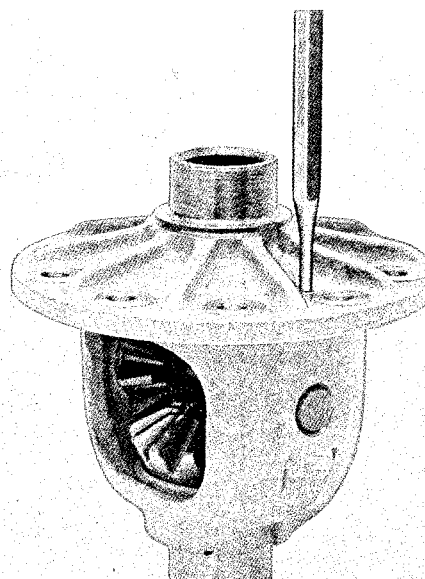

Fig. 4-146. Lock pin removal
3. Drive out the lock pin, see Fig. 4-146, and then the shaft for the differential gears. Take out the differential gears and the thrust washers.